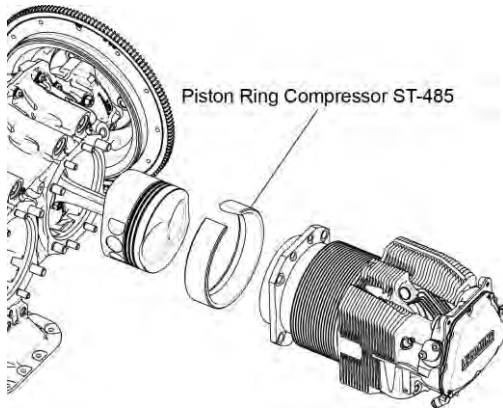

Figure 16
- E. Use the Piston Ring Compressor (ST-485) to install the cylinders (Figure 16) as follows: